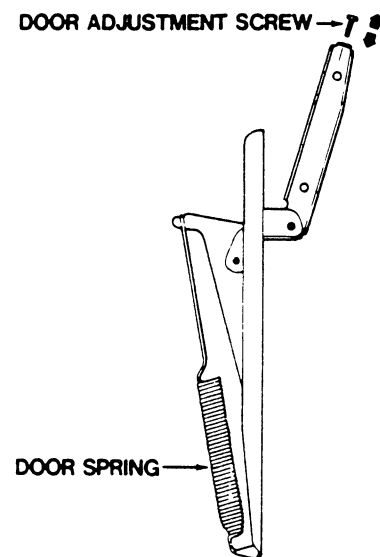

Figure F1
2. At the end of each oven door hinge is an adjustment screw, loosen the one on the low side of the door. (See Figure F1)